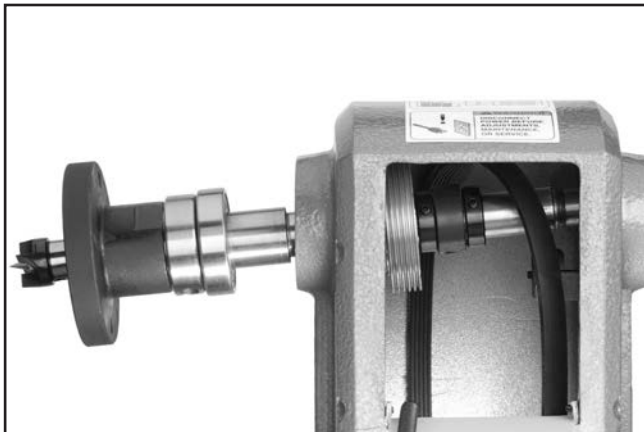

Figure 52. Belt removal.
5. Tap the spindle far enough out of the headstock that the belt can be removed. A rubber or wooden mallet may be required. Take care not to damage the spindle threads or to lose parts in the process (**Figure 52**).